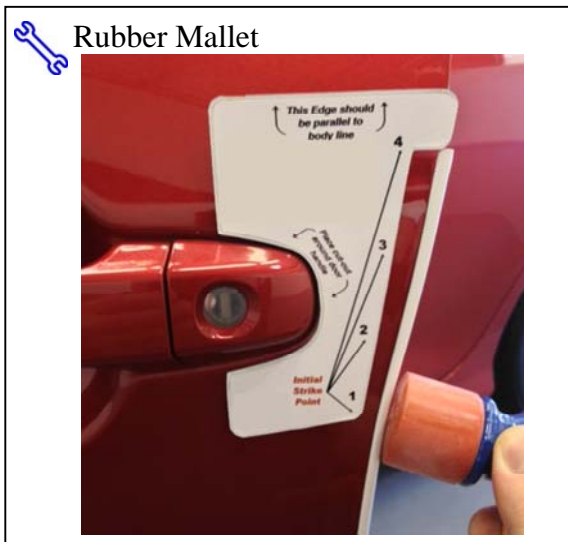

Fig. 1-6
- (iv) Mallet blows need to be delivered squarely (broad face contact opposed to point contact) to the spine of the molding and perpendicular to the door edge as shown. While holding the DEG in proper alignment with one hand, use the **soft side of the rubber mallet** to begin tapping the channel onto the door edge, starting at Striking Point #1 on the template (~3” inches below the top of the DEG). Ensure the channel is fully engaged onto the door edge before proceeding to the next step (Fig. 1-6).